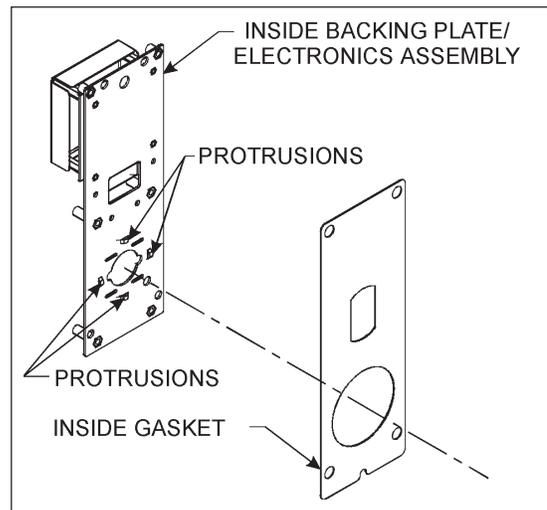

Figure 12
- If your lock includes outdoor gaskets, you should at this time install the Inside Gasket. Refer to Figure 12 and identify the Inside Backing Plate/ Electronics Assembly and Inside Gasket. Remove the paper backing sheet from the adhesive on the Inside Gasket. Position the gasket, with the adhesive side toward the inside backing plate, so that the large hole in the gasket is centered over the four protrusions on the backing plate. Ensure that the four corner holes in the gasket are aligned with the matching four corner holes in the backing plate. When properly installed, the gasket will overhang the backing plate an equal amount on all four sides. Once the proper position of the gasket is verified, press the gasket firmly into place.